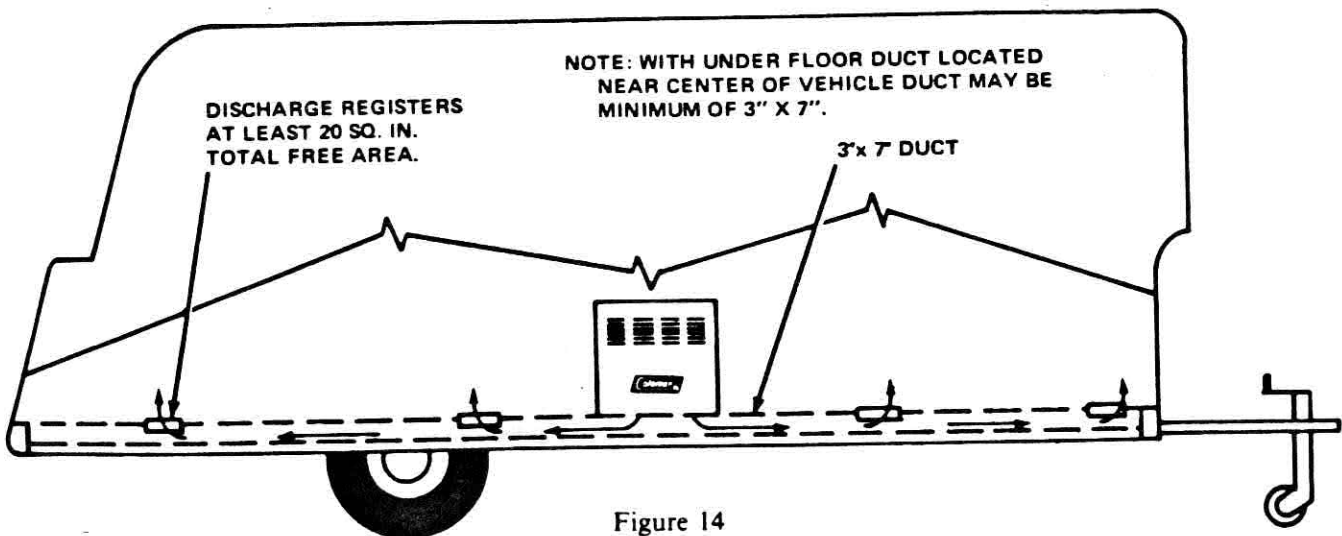

Figure 14
9. Refer to Figure 14 for an illustration of a typical floor duct installation complete. Be sure to use discharge registers having a minimum of 20 square inches total free area.